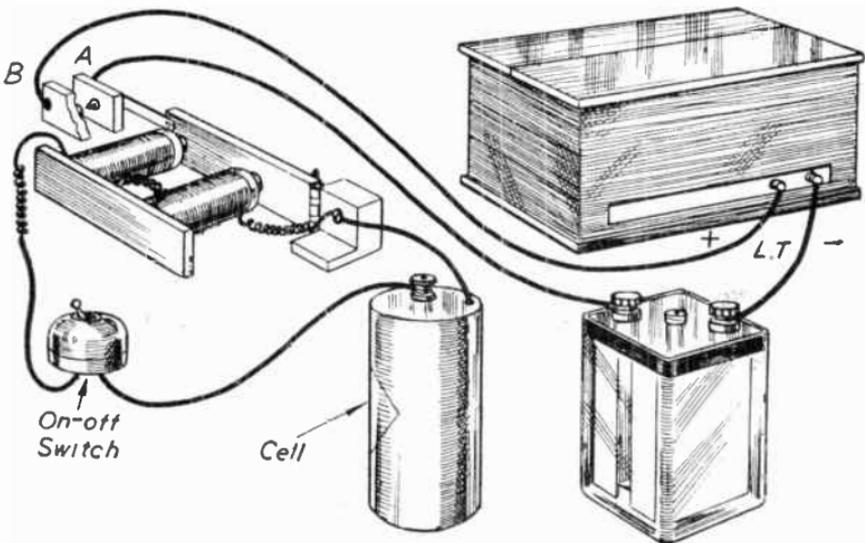

FIG. 352.—A Relay which consists of the Magnets and Armature of an electric bell.
In Fig. 352 the armature of the bell has been extended by a piece of thin ebonite or fibre cemented on. Two small contacts, (A) and (B), made from brass or from an old dismantled bell push, are then mounted close together so that when the armature is attracted to the magnets the piece of fibre will press the two contacts together. A small dry cell and a switch are then connected as shown, whilst, the accumulator leads are arranged as for the method first described. If, now, the switch is operated the magnets will attract the armature, the contacts will close, and the valves will be switched on. With